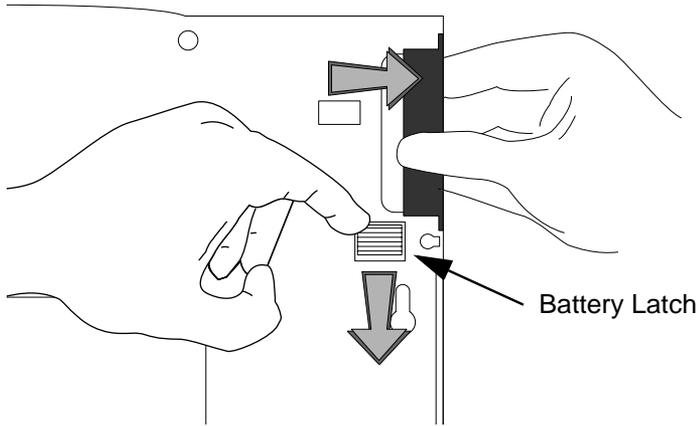

Figure 3-5 Removing the Battery Pack
3. Press the battery latch (see Figure 3-5) away from the battery.